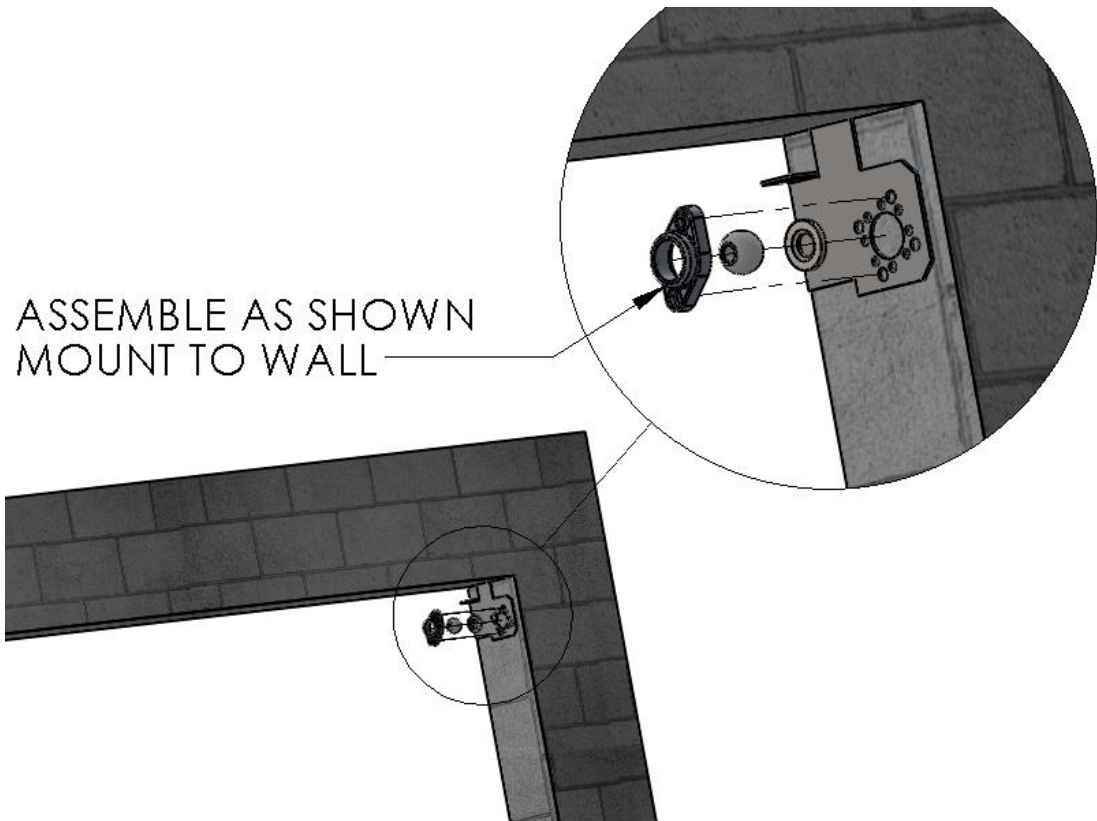

Figure 2 INSTALL IDLER HEADER BRACKET AND IDLER ASSEMBLY
2. Insert your Wall Mounting Hardware through Idler Bearing assembly (3 pieces), and through the R.H. Header Mounting Bracket, into the Mounting Surface. (Figure 2 INSTALL IDLER HEADER BRACKET AND IDLER ASSEMBLY)